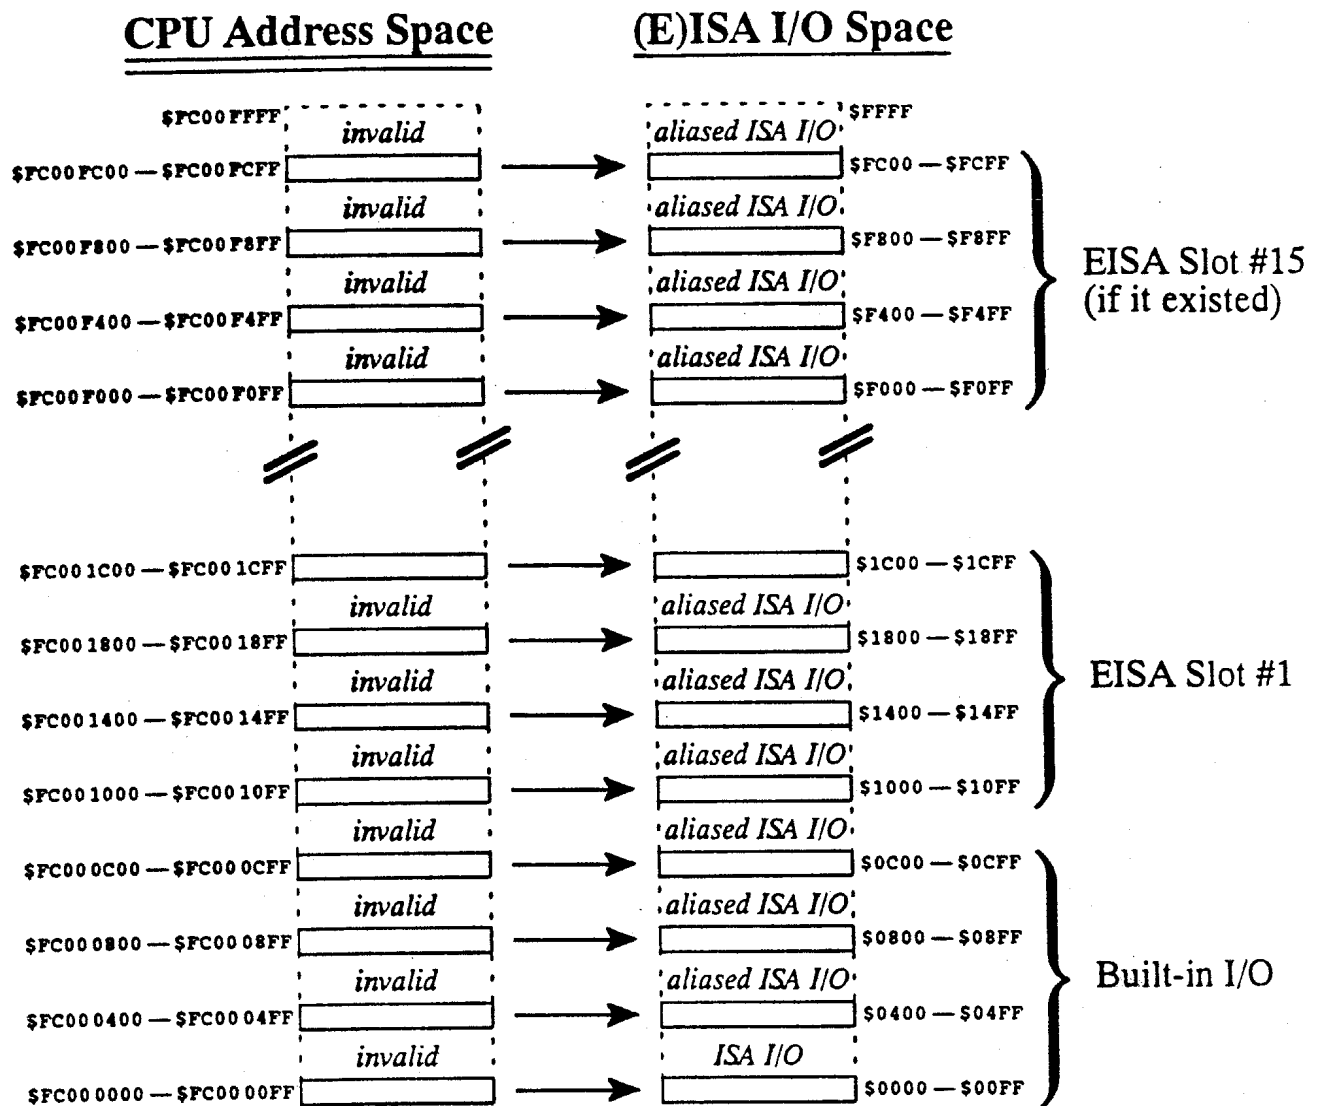

Figure 6 CPU Accesses to EISA & Built-In I/O
Graphically, this part of the converter's address space appears in Figure 6. This converter will refuse to run CPU accesses at addresses that are marked as invalid; such accesses will be completed on the host bus (i.e., the converter will issue a READY), but no (E)ISA cycle will be run:
Now, Figure 6 shows several blocks of ISA I/O space: the primary ISA I/O range exists at \$100–\$3FF, but the EISA spec also defines aliases for this range every \$400 bytes, from \$500–\$7FF through \$FD00–\$FFFF. The problem with this I/O space is that primary ISA I/O space is divided into 8-byte chunks, and each ISA board can use one (or more) of these chunks. Thus, to protect cards from one another, every group of 8 bytes in this region must be mapped into a separate 4kB MMU page. All of the aliased I/O addresses are made accessible to the CPU (just in case some I/O board needs to use them to distinguish between its registers); but because most ISA I/O boards don't even look at address lines higher than SA[9], we can safely assume that each aliased I/O address accesses the same board as its corresponding primary I/O address, and map the aliased I/O address into the same MMU page as the primary address.